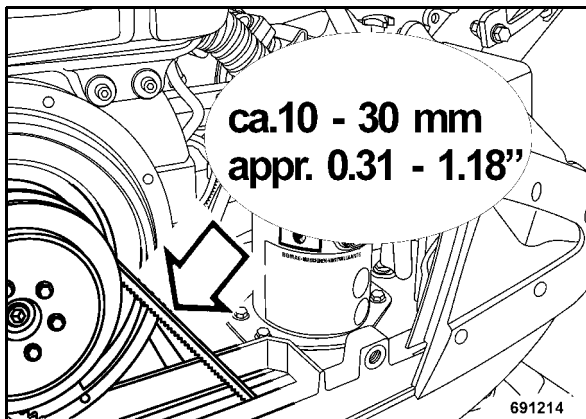

Fig. 72
- Check condition and tightness of V-belt (Fig. 72).